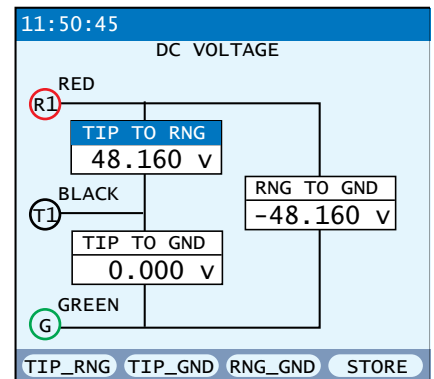

Figure 42 DC Voltage Screen
**Note:** All three measurements are displayed simultaneously. However, only the highlighted measurement (TIP TO RNG in Figure 42) is a live measurement.